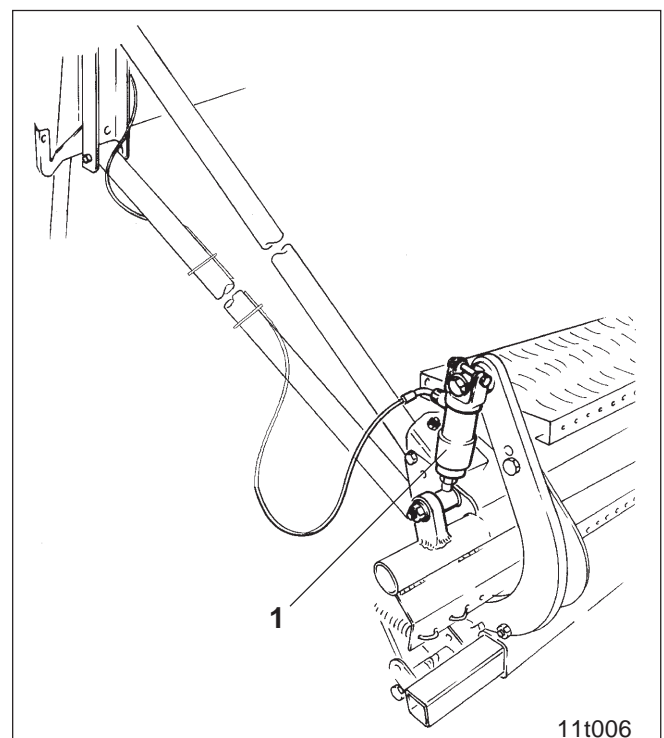
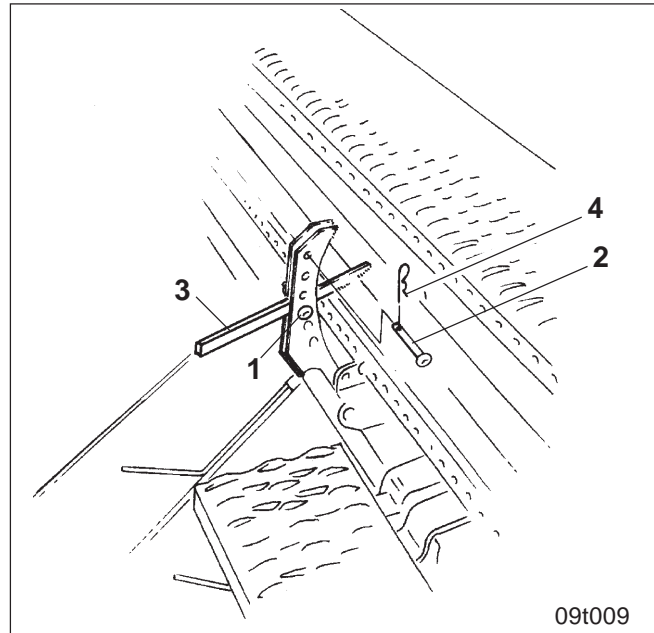

Fig. 25.9
Fig. 25.10
When changing from normal soils to heavy soils or vice versa, the coulter pressure is readjusted by a hydraulic ram (Fig. 25.9/1).
Two pins (Fig. 25.10/1 und Fig. 25.10/2) are placed as a stop for the lever (Fig. 25.10/3) in the setting segment. The lever (Fig. 25.10/3), which is actuated by the hydraulic ram (Fig. 25.9/1), lays on the pin I (Fig. 25.10/1) when the hydraulic ram is without pressure and it lays on pin II (Fig. 25.10/2) when the
- make the hydraulic ram (Fig. 25.9/1) pressureless.
- Place pin II (Fig. 25.10/2) into a hole **above** the lever (Fig. 25.10/3) in the setting segment and secure with a clip pin (Fig. 25.10/4).
- Pressurise the hydraulic ram (Fig. 25.9/1).
- Place pin I (Fig. 25.10/1) into a hole **below** the lever (Fig. 25.10/3) and secure with a clip pin (Fig. 25.10/4).